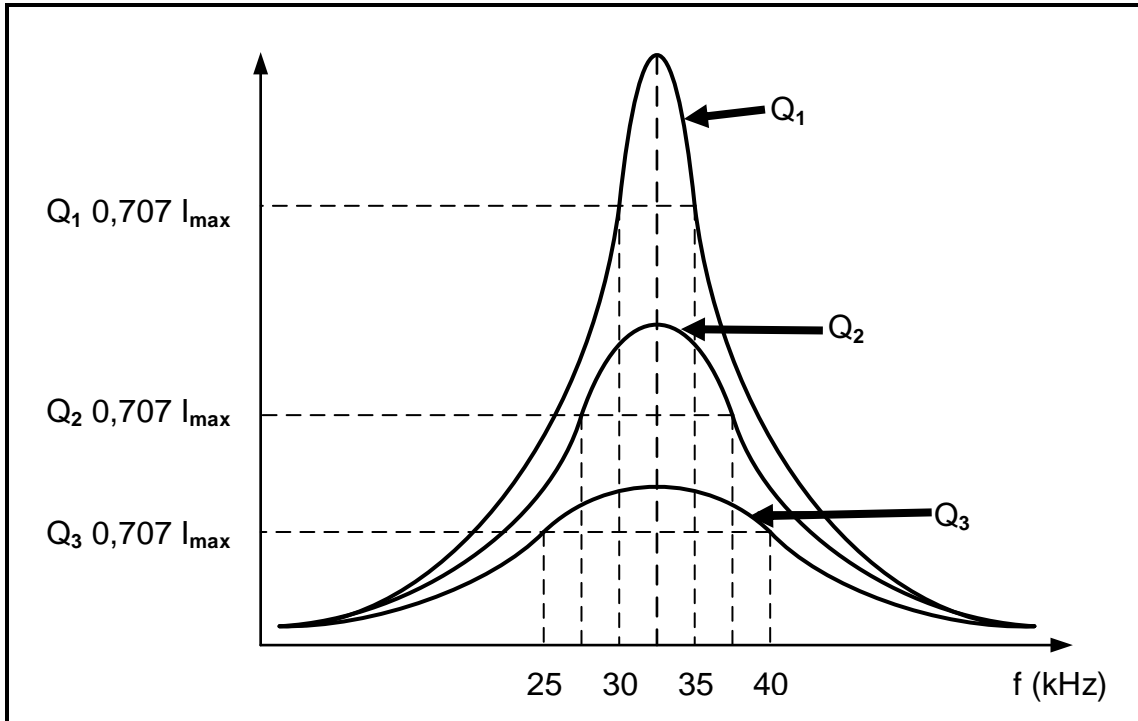

FIGURE 2.5: Q-FACTOR CHARACTERISTIC CURVE
2.5 FIGURE 2.5 below shows the Q-factor characteristic curve of an RLC circuit, NOT to scale. Q_1 , Q_2 and Q_3 indicate how a change in the L/C ratio affects the Q-factor of a resonant circuit. Answer the questions that follow.